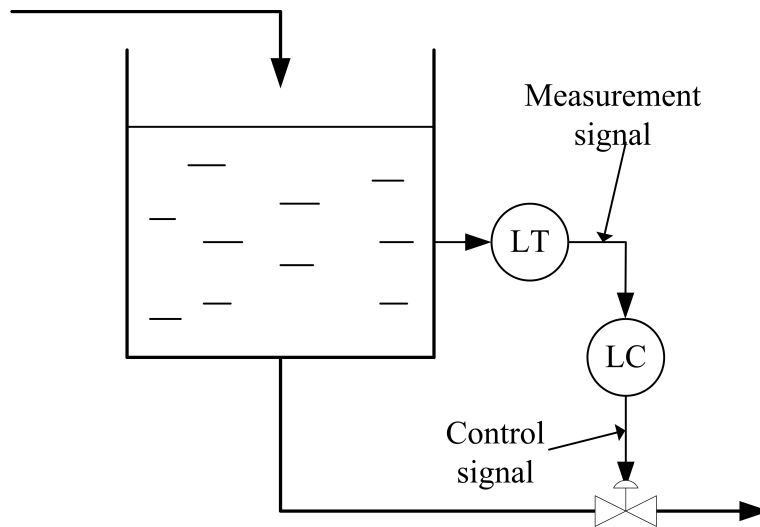

Figure 3: Tank with level control system
6. (10%) Figure 3 shows a level control with a control valve assumed to provide increased opening, and hence increased flow, if the control signal to the valve is increased (hence, the valve is a Fail Closed valve). In this control system the controller must have direct action.